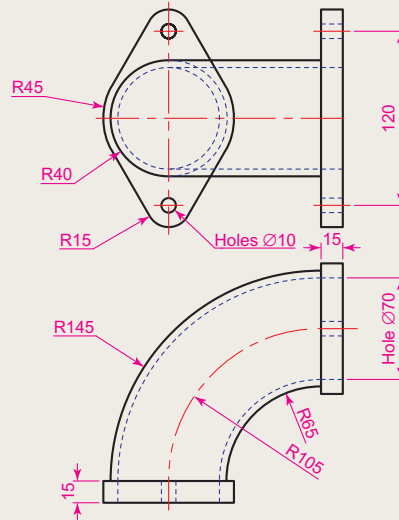

Fig. 17.37 Exercise 3 – details of shape and sizes
3. The two-view projection Fig. 17.37 shows a ducting pipe. Construct a 3D model drawing of the pipe. Place in a **SW Isometric** view, add lighting to the scene and a material to the model and render.